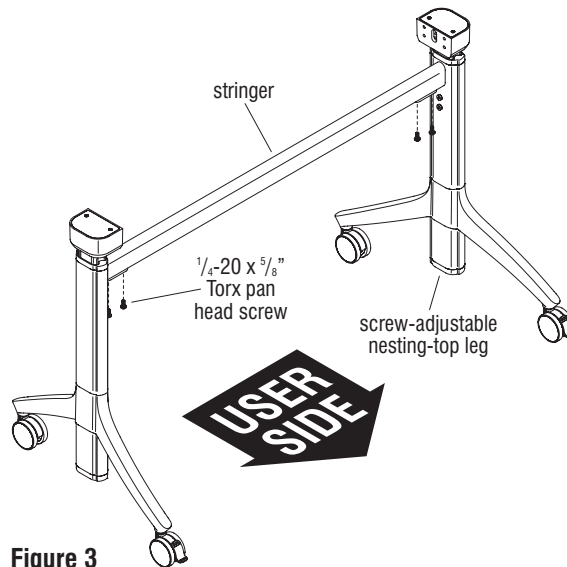

Figure 3
10. From underneath, one side at a time, align the stringer mounting holes with the stringer attachment bracket mounting holes, and secure using two 1/4-20 x 5/8 inch Torx screws on the underside hole locations. Repeat the step above to secure the stringer to the opposite leg's stringer attachment bracket (Figure 3 & Details C & D).